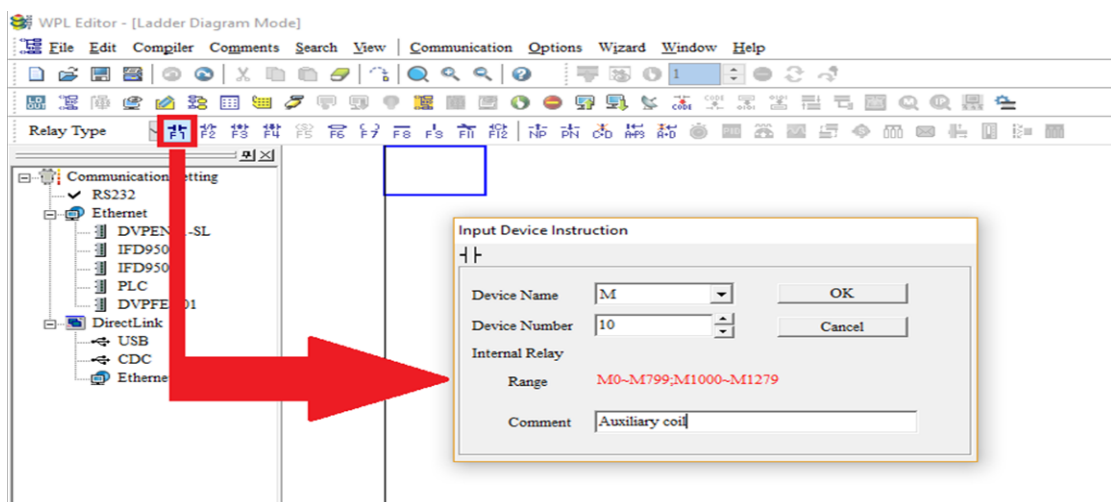

Figure 15-12
Step 2: Click on the always-open switch icon  or press the function key F1. After the name of the input device and the comment dialog box have appeared, the device name (such as "M"), device number (such as "10"), and input comments (such as "auxiliary contact") can be selected; press the OK button when finished (see figure 15-12 and 15-13 below).